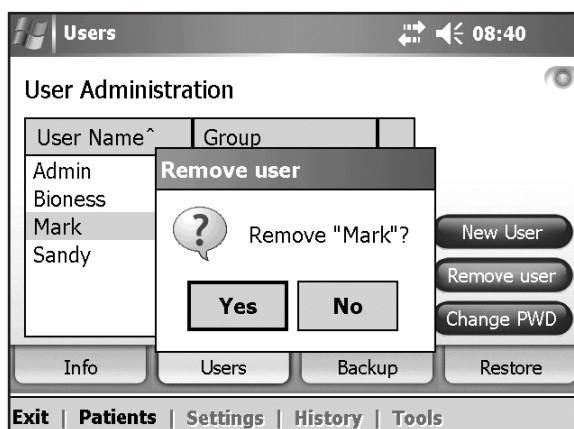

Figure 7-41: Remove User confirmation window.
3. A confirmation message will appear. See Figure 7-41. Press **Yes**.